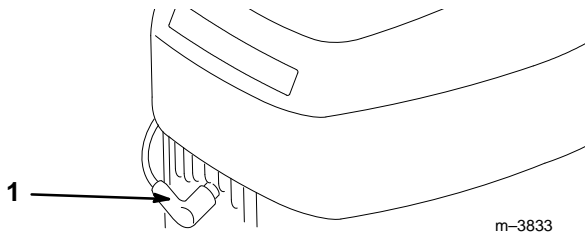

Figure 25
1. Pull wire off spark plug (Fig. 25). Remove key from switch.
5. Reconnect spark plug wire when maintenance is completed (Fig. 25).
2. Disconnect spark plug wire (Fig. 25).
1. Disconnect spark plug wire (Fig. 25).
5. Connect spark plug wire when maintenance is completed (Fig. 25).